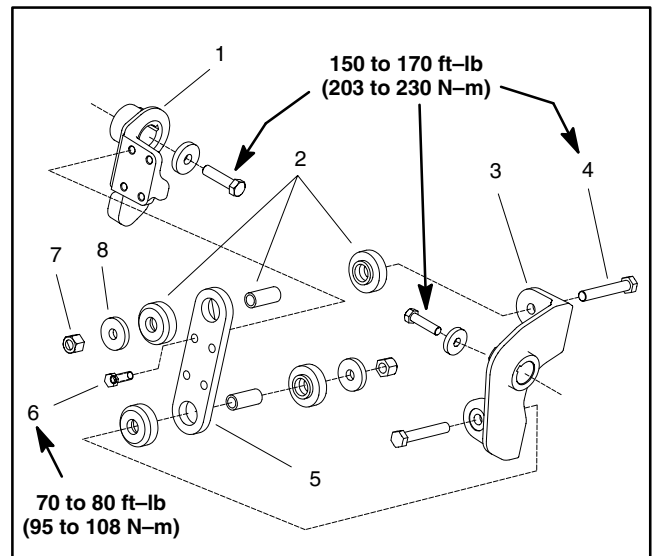

Figure 10
- C. Cap screws that secure coupling plates (Fig. 10).